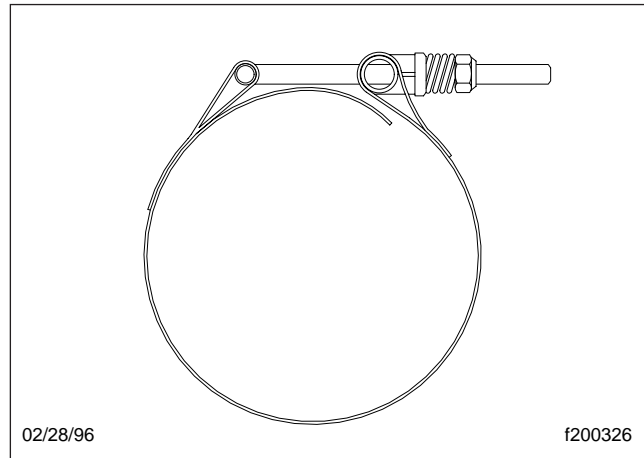
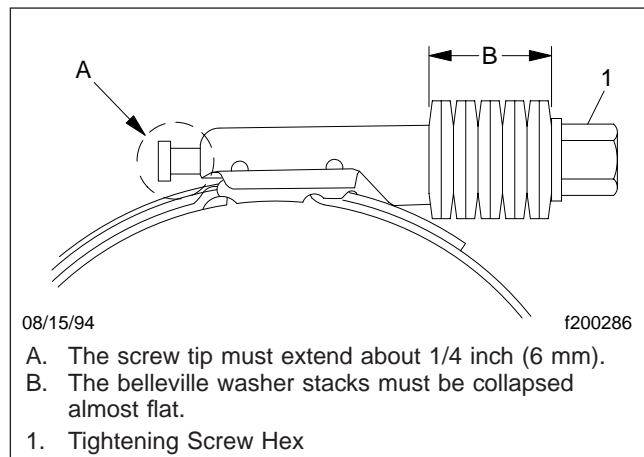

Fig. 3, T-Bolt Type Hose Clamp
Fig. 4, Breeze Constant-Torque Hose Clamp Installation
6. Connect the hoses. Your hose clamps can be either T-bolt clamps (see **Fig. 3**) or Breeze Constant-Torque clamps (see **Fig. 4**).